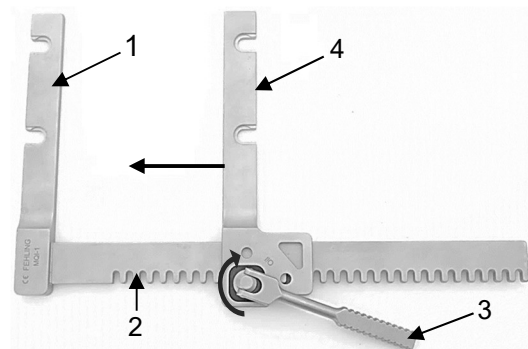

Fig. 9
Ensure that both retractor arms point in the same direction as shown in Figure 9.
By rotating the drive lever (3) clockwise, transport the movable retractor arm (4) on the toothed rack (2) inwards towards the fixed retractor arm (1) (Fig. 9).